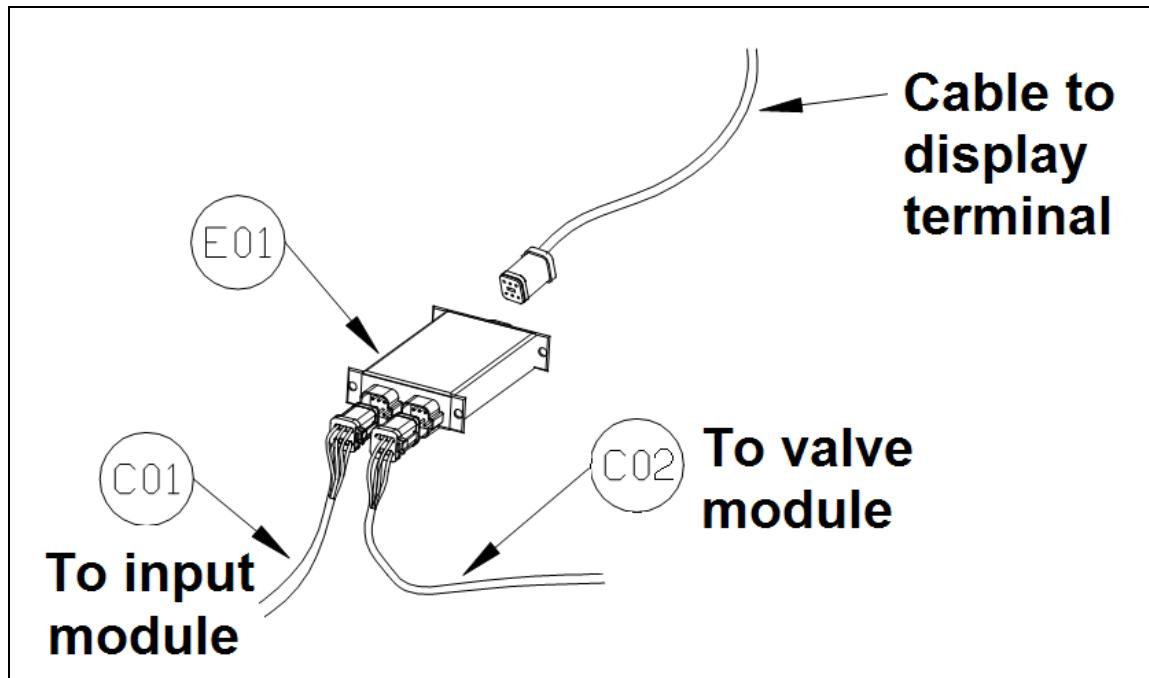

Figure 19: Control Module Mounting
1. Refer to **Figure 1** and **Figure 19**.